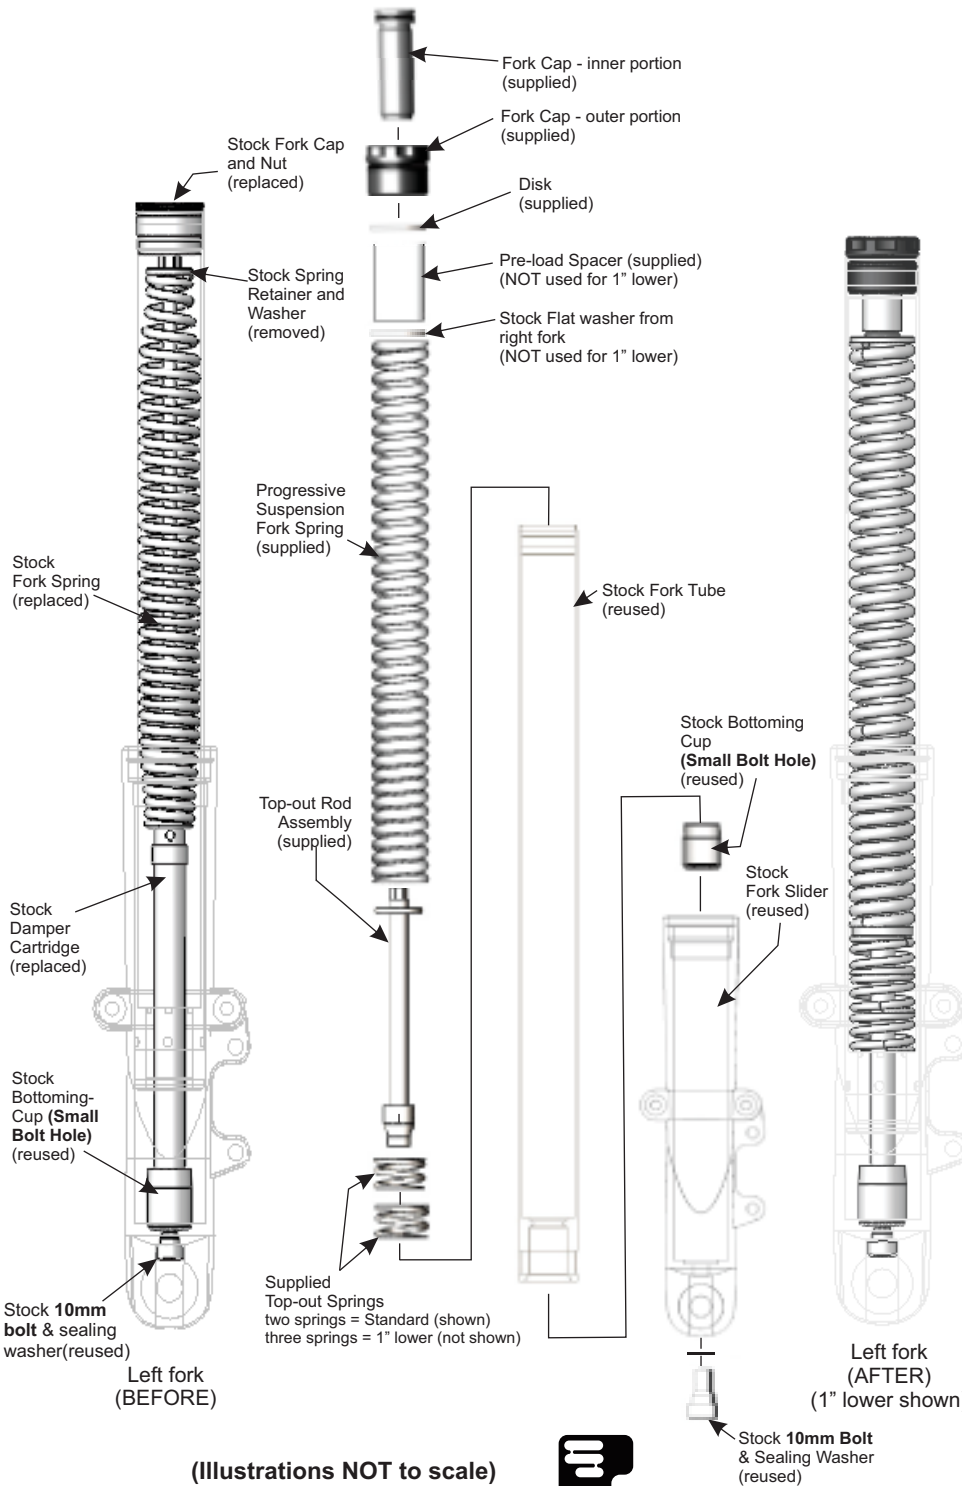

Figure 1
- **No fork spring is installed in this (the right) fork assembly.** Pour a small amount - 200cc - of type “E” or 10wt. fork oil into the fork for lubricating purposes as seen in figure 1. Then using the supplied Monotube Installation Tool (p/n 5503-200) thread the Monotube assembly into your fork-tube and torque it to the recommended 16-43 ft-lbs. This completes the right fork assembly.